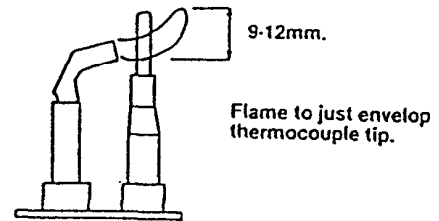

Fig. 2
- f) Adjust the pilot flame if necessary (a low energy pilot is fitted, which requires the pilot adjustment screw to be screwed four full turns anti-clockwise from closed (see Figs.2 and 3)).